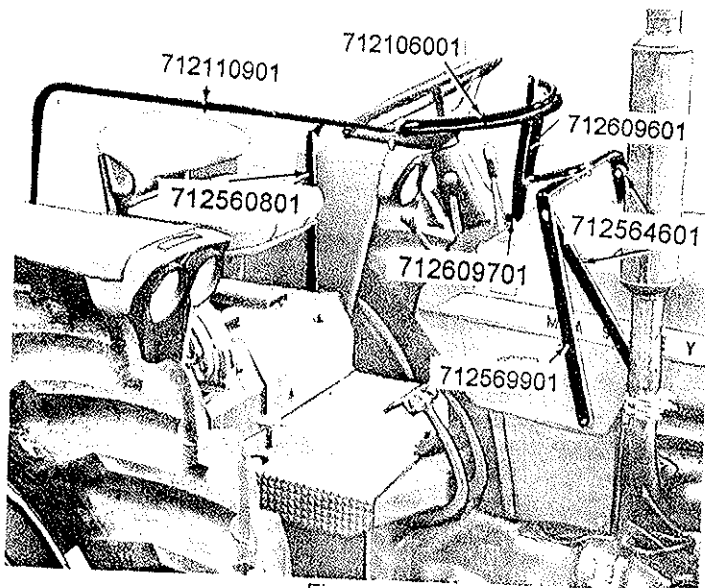

Figure 1
1. Bolt #712609601 mounting bracket to #712569901 saddle using 5/16" x 3/4" bolts and nuts. See Figures 1 & 2.
2. Bolt saddle to tractor using 1/4" x 1" bolts. Bolt #712564601 saddle braces to tractor and saddle using 1/4" x 1" bolts. See Figures 1 & 2.
3. Thread the #712110901 side arm into wide hem on right side of vinyl. Insert #712106001 yoke in front top hem. Bolt yoke and side arm together using 3/8" x 1 1/2" bolt and nut. See Figures 1 & 2.
4. Place vinyl over tractor and bolt yoke to mounting bracket using 1/4" x 3/4" flat head bolts. Bolt bottom of side arm to fender using 1/2" x 1 1/4" bolt and nut. See Figures 1 & 3.